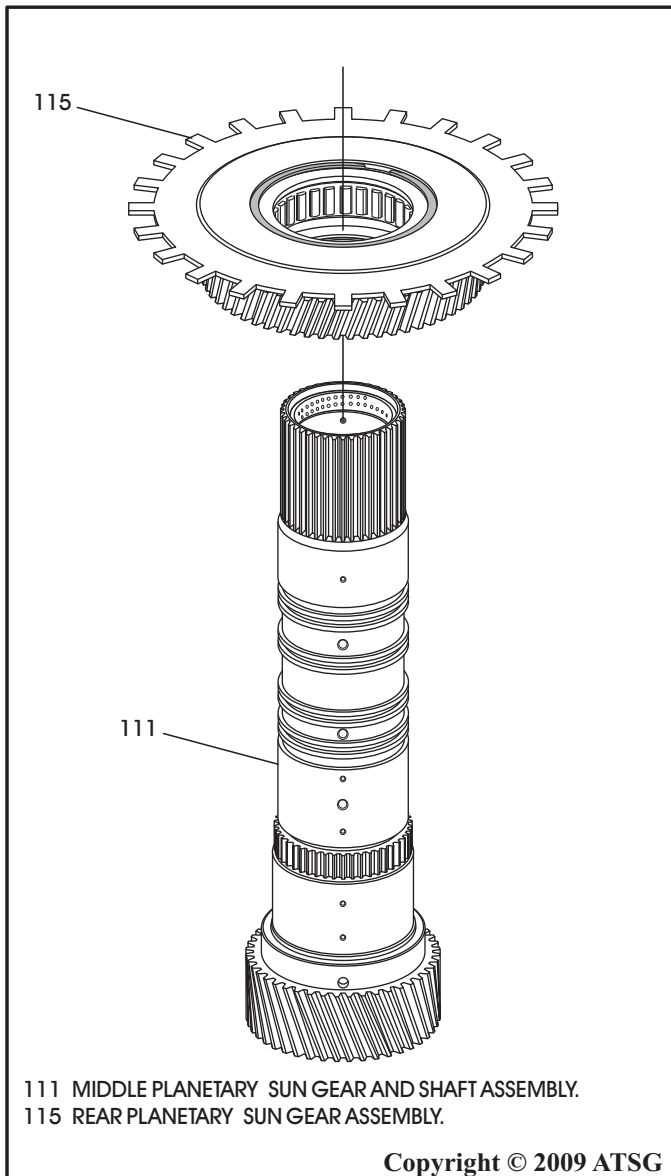

Figure 119
11. Install the rear planetary sun gear and 1st sprag assembly onto the sun gear shaft, as shown in Figure 119, and rotate into position.